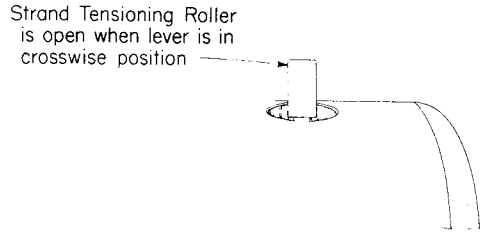

Fig. 22—Position of Lever on D Cable Lasher When Roller is Open
- (1) Make certain that the pulling plate gate is open and that the rotating drum is locked in position.
- (2) Open the rear cable lifter, adjust it to the lowest position, and close it.
- (3) Adjust the rear vertical cable rollers to their widest opening.
- (4) The strand tensioning roller should be in the open position. When the strand tensioning roller lever (between strand drive wheels at the top of the lasher) is crosswise, the roller is in the open position (Fig. 22).